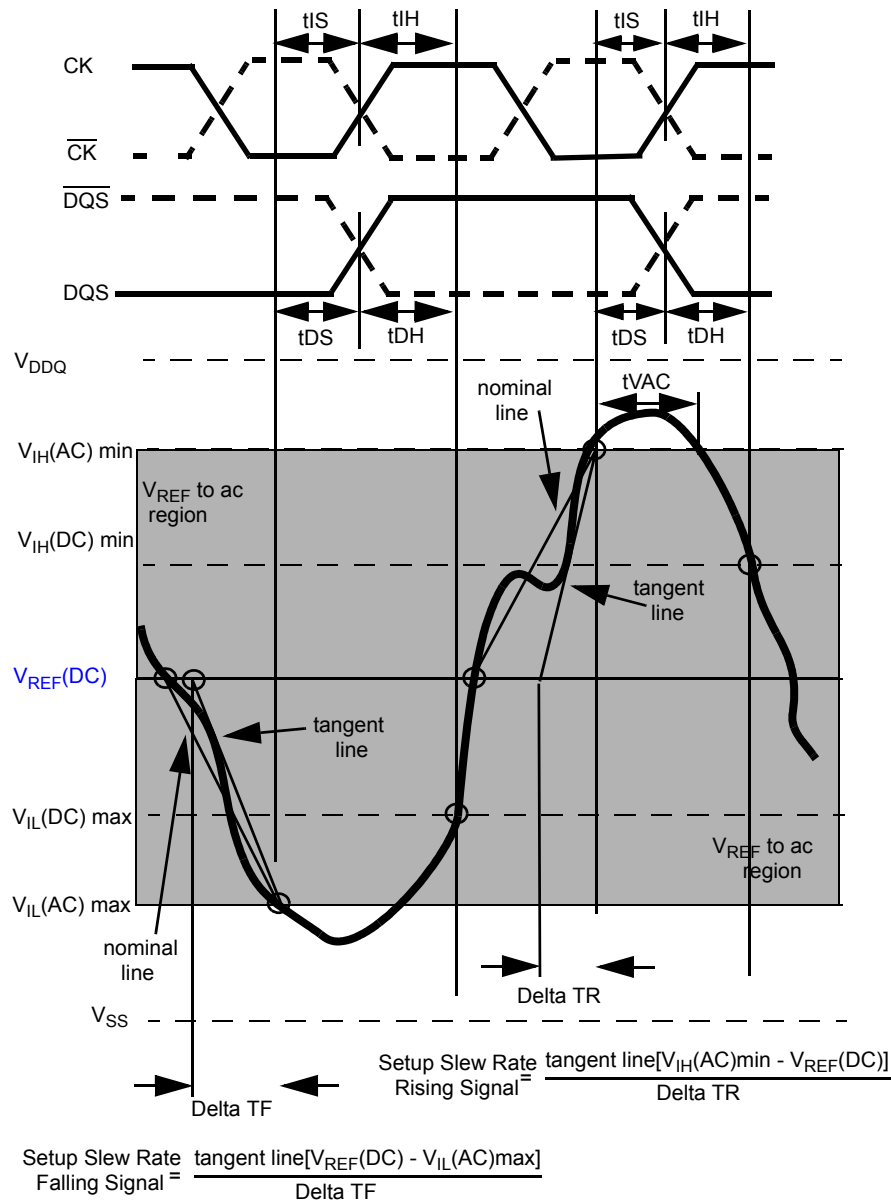

Figure 23. Illustration of tangent line for setup time  $t_{DS}$  (for DQ with respect to strobe) and  $t_{IS}$  (for ADD/CMD with respect to clock)
the slew rate between the last crossing of VREF(DC) and the first crossing of VIL(AC)max. If the actual signal is always earlier than the nominal slew rate line between shaded 'VREF(DC) to ac region', use nominal slew rate for derating value (see Figure 23). If the actual signal is later than the nominal slew rate line anywhere between shaded 'VREF(DC) to ac region', the slew rate of a tangent line to the actual signal from the ac level to dc level is used for derating value (see Figure 25).